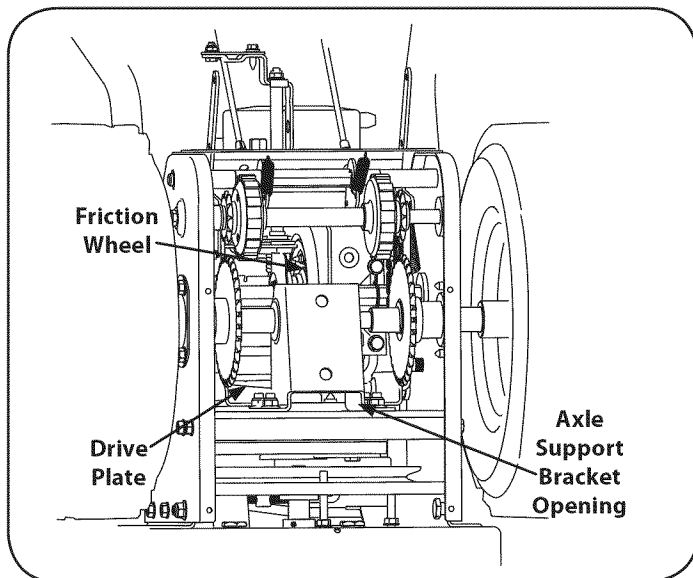

Figure 27
2. Locate the opening between the axle support bracket and the front frame support. See Figure 27. Looking through this opening, with the wheel drive control released, there must be clearance between the friction wheel and the drive plate in all positions of the speed selector lever.
3. With the wheel drive control engaged, the friction wheel must contact the drive plate. See Figure 27.